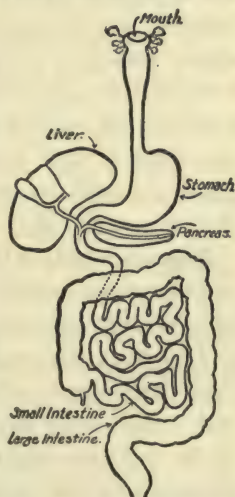

FIG. 41.—The alimentary canal.
**THE** food we eat is destined to become blood, bone, muscle, nerve, etc. But before food can become part and parcel of our bodies, it must be digested; that is, it must be so softened, dissolved, and chemically changed that it can pass through the walls of the alimentary canal and reach the vessels which carry it to the different parts of the body. The alimentary canal (Fig. 41) in which food is digested or made ready for absorption into the blood consists principally of mouth, stomach, intestines, and of the glands which pour secretions into these organs. The salivary glands which open into the mouth, the gastric glands in the stomach, the intestinal glands in the intestines, and the liver and pancreas glands which open into the intestine, secrete chemical compounds called ferments. These ferments act upon carbohydrates, proteins, and fats and change them into substances which can pass through cell walls and be absorbed by the blood. If the digestive glands fail to supply ferments, the food we eat lies undigested in the alimentary canal and is worthless for cell growth and repair. In the normal healthy body the various glands send abundant secretions into the alimentary canal, and the food is soon changed into sub-